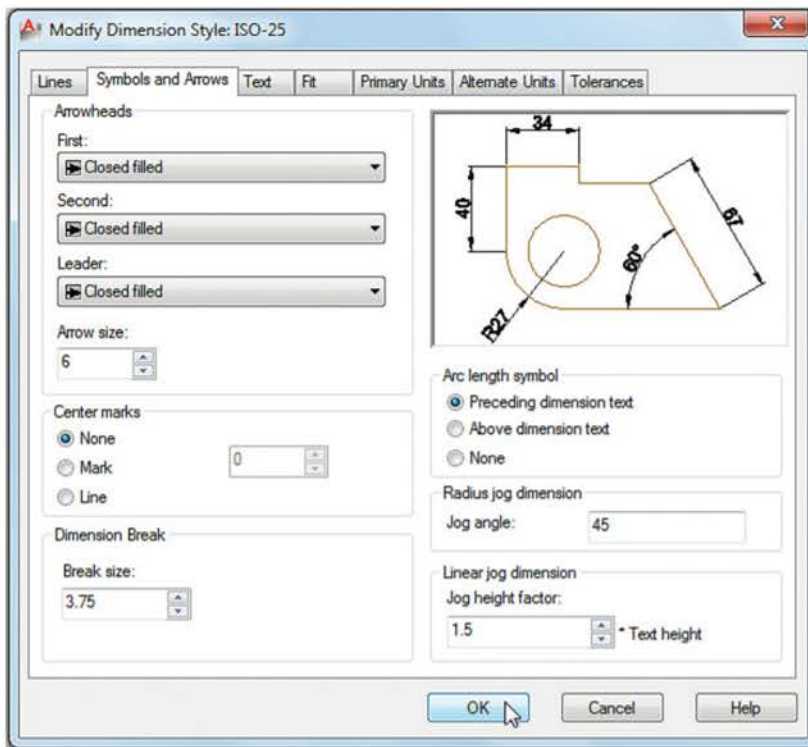

Fig. 5.10 The Modify Dimension Style dialog – setting symbols and arrows
3. The **Modify Dimension Style** dialog appears (Fig. 5.10). This dialog shows a number of tabs at the top of the dialog. *Click* the **Symbols and Arrows** tab and make settings as shown in Fig. 5.10. Then *click* the **OK** button of that dialog.